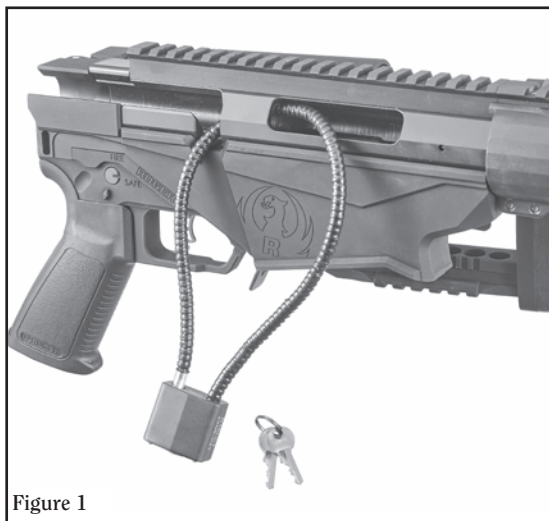

Figure 1
6. Apply the lock to your **RUGER PRECISION RIFLE™** as shown below in Figure 1.